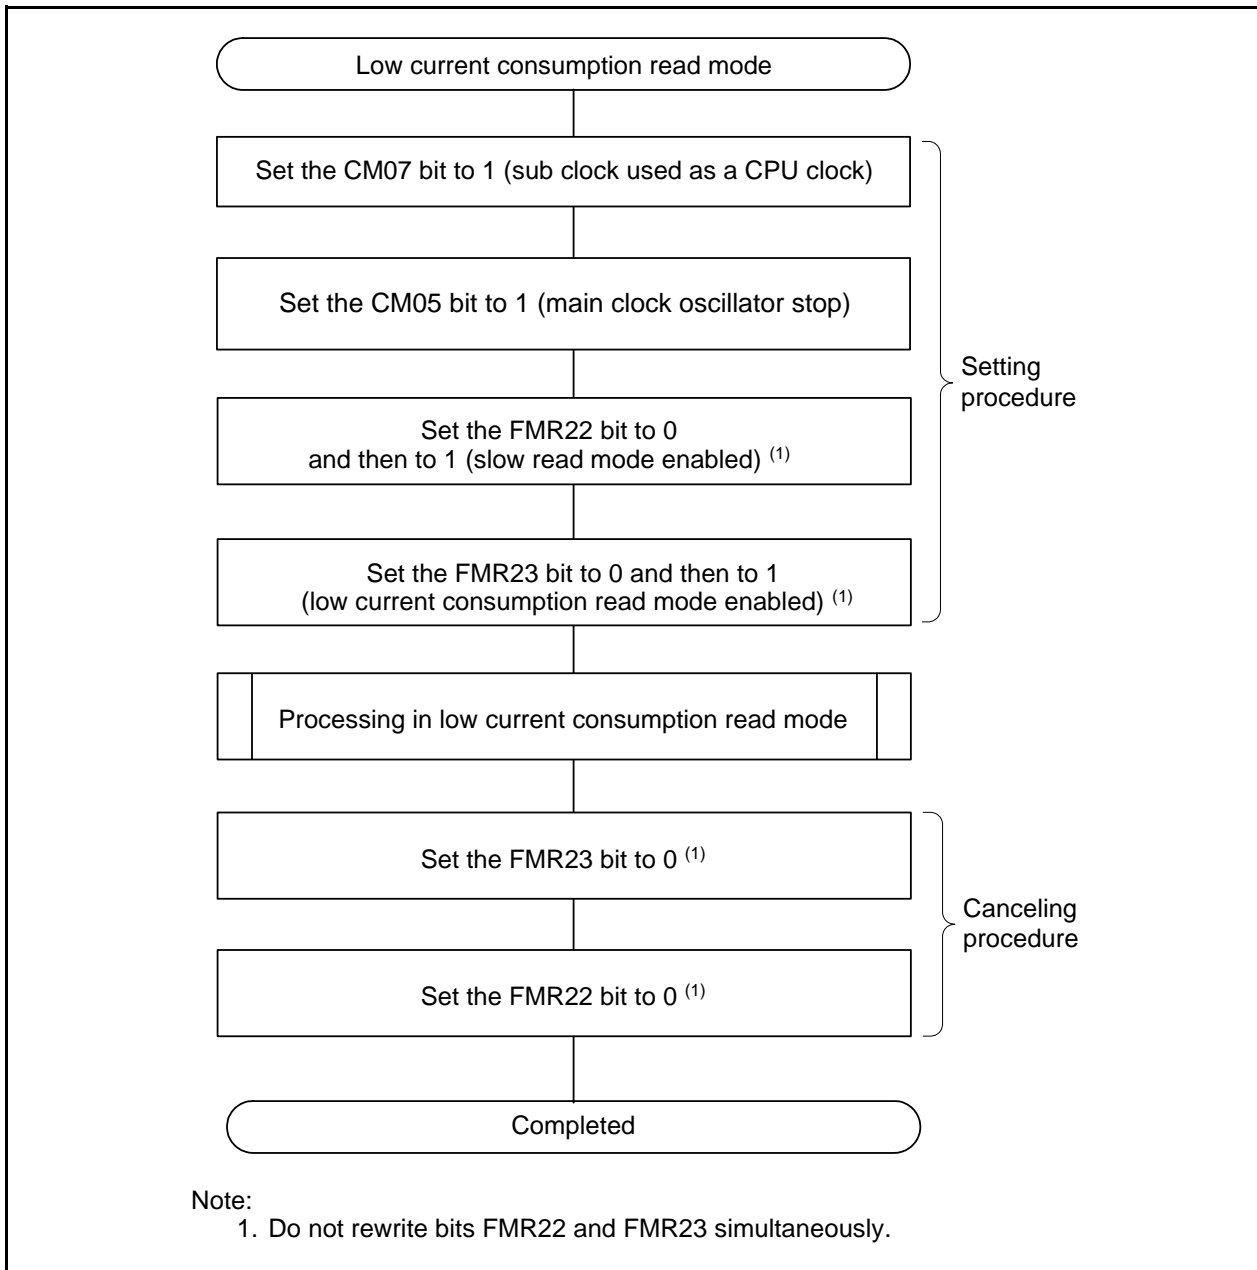

Figure 9.5 Setting and Canceling Low Current Consumption Read Mode
Low current consumption read mode can be used when the CM07 bit in the CM0 register is 1 (sub clock used as CPU clock). Figure 9.5 shows Setting and Canceling Low Current Consumption Read Mode.
- Enter low current consumption read mode through slow read mode (see Figure 9.5 “Setting and Canceling Low Current Consumption Read Mode” for details).